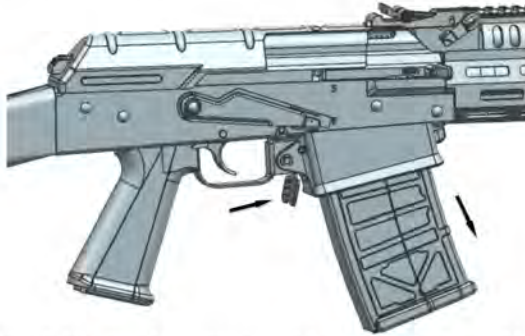

Fig. 3 Press Magazine Holder and Remove Magazine
3.2.2. Press the magazine holder (in front of the trigger guard) to remove the magazine (see Fig. 3) if it is on the gun.
4.1.1.1. Hold the stock firmly with the left hand and the magazine with the right hand, press the magazine holder hard with the right thumb and pull the magazine downward to remove it (see Fig. 3).